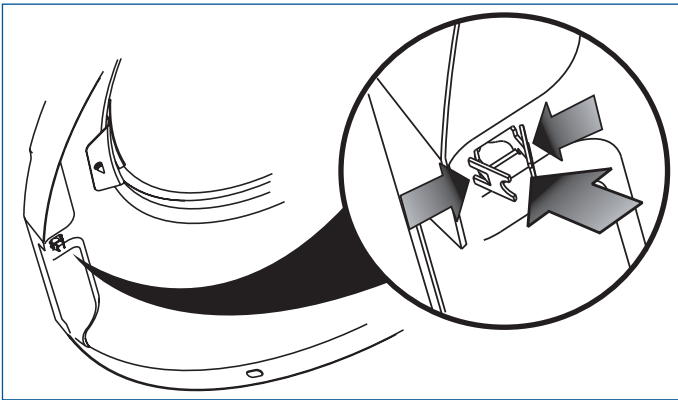

Figure 2-21.
2. Turn inner door assembly over to expose retaining tabs of metal strike. Grip tabs fully with pliers to remove. Discard old metal strike. (See Figure 2-21)